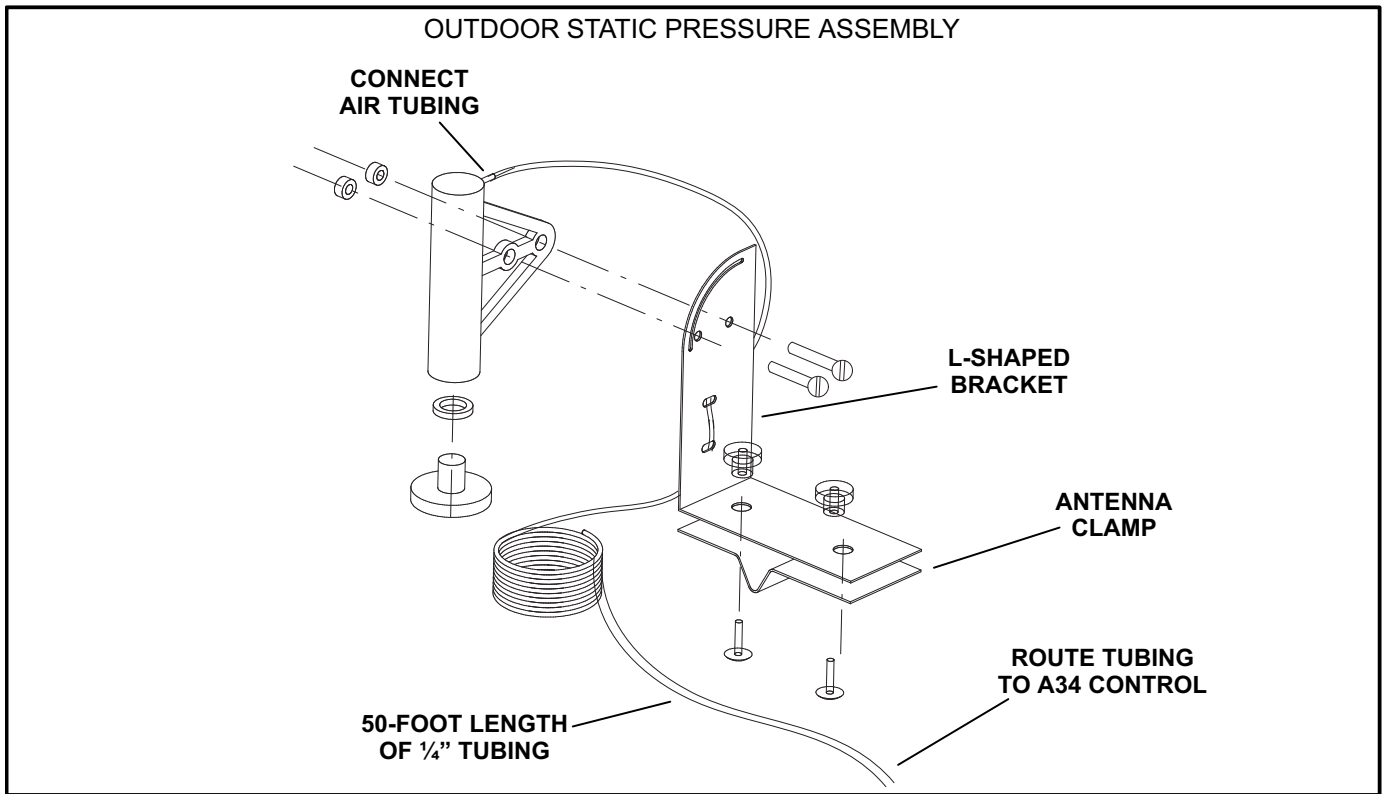

FIGURE 5
- 9- Connect the other end of the outdoor air tubing to the outdoor static pressure assembly. See figure 5.